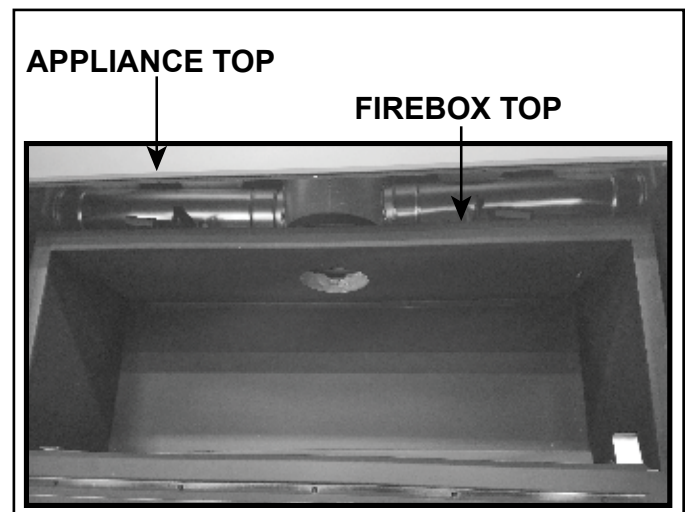

Figure 15
8. Inspect for and remove all debris that may have accumulated or objects that may have been placed on the firebox top and appliance top during the installation process. All debris and objects must be removed prior to operation of the appliance. Firebox top and appliance top are shown in Figure 15.